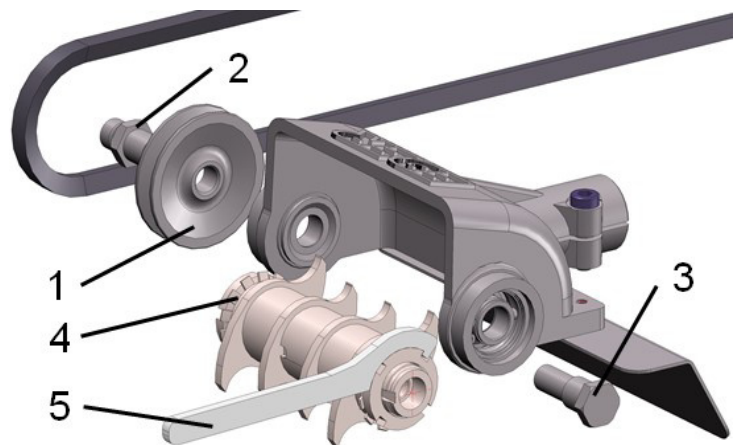

Figure 14: Changing knives
- > Remove the round brush from the case and loosen the fuse sheet (**4** – Fig.14).
- > Use the keys to loosen the Nutnuts countered against each other (**5** – Fig.14). The round brush can then be pushed off the shaft.
- > Screw off the wedge strap disc (**1** – Fig14). Take a lace pliers to help and place them in the side holes of the wedge strap disc.
- > Screw out the bearing wave briefly (**3** – Fig14) and the bearing wavelong (**2** – Fig. 14).
- > Remove the shaft from the case and loosen the fuse sheet (**4** – Fig.14).
- > Use the key to loosen the Nutmutter (**5** – Fig.14). The knives can then be pushed off the shaft.